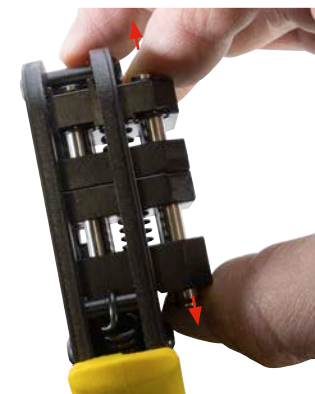

Fig. 8:
- Release the insert so that the upper and lower notches slide into the opening of the frame. The spring force helps with positioning the insert (see Fig. 8).